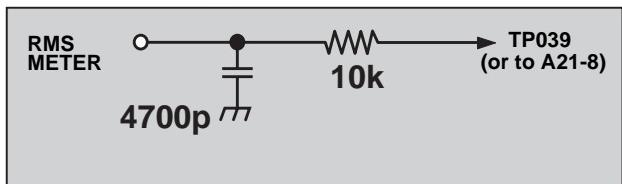

Figure 58. Filter Jig
1. Connect an RMS meter (A.C. Range) with filter jig as shown in Figure 58.